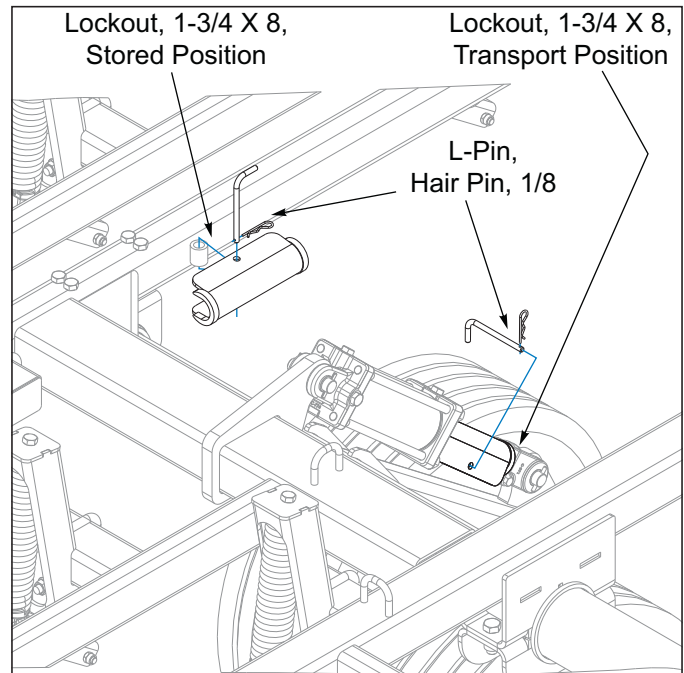

Figure 4-10: Lockouts
10. Install transport locks on both lift systems. Do not depend solely on implement hydraulics for transport *See Figure 4-10.*